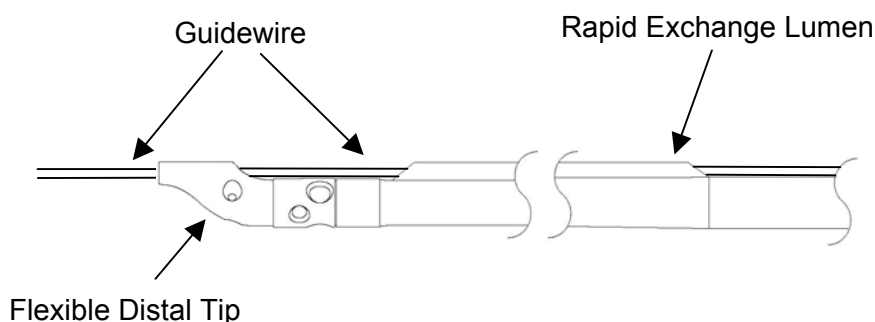

Figure 2
3. Secure guidewire position; insert guidewire through flexible distal tip and rapid exchange lumen of ThromCat™ catheter (Figure 2).